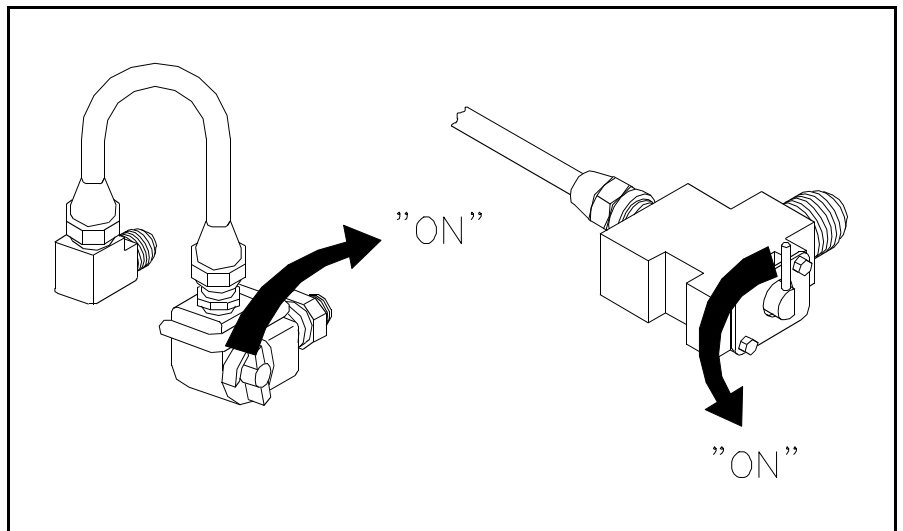

Figure 5.37 Manual Valve (alternate versions)
34. Check the manual shut-off valve shown in Figure 5.37 to be sure it is in the ON position.